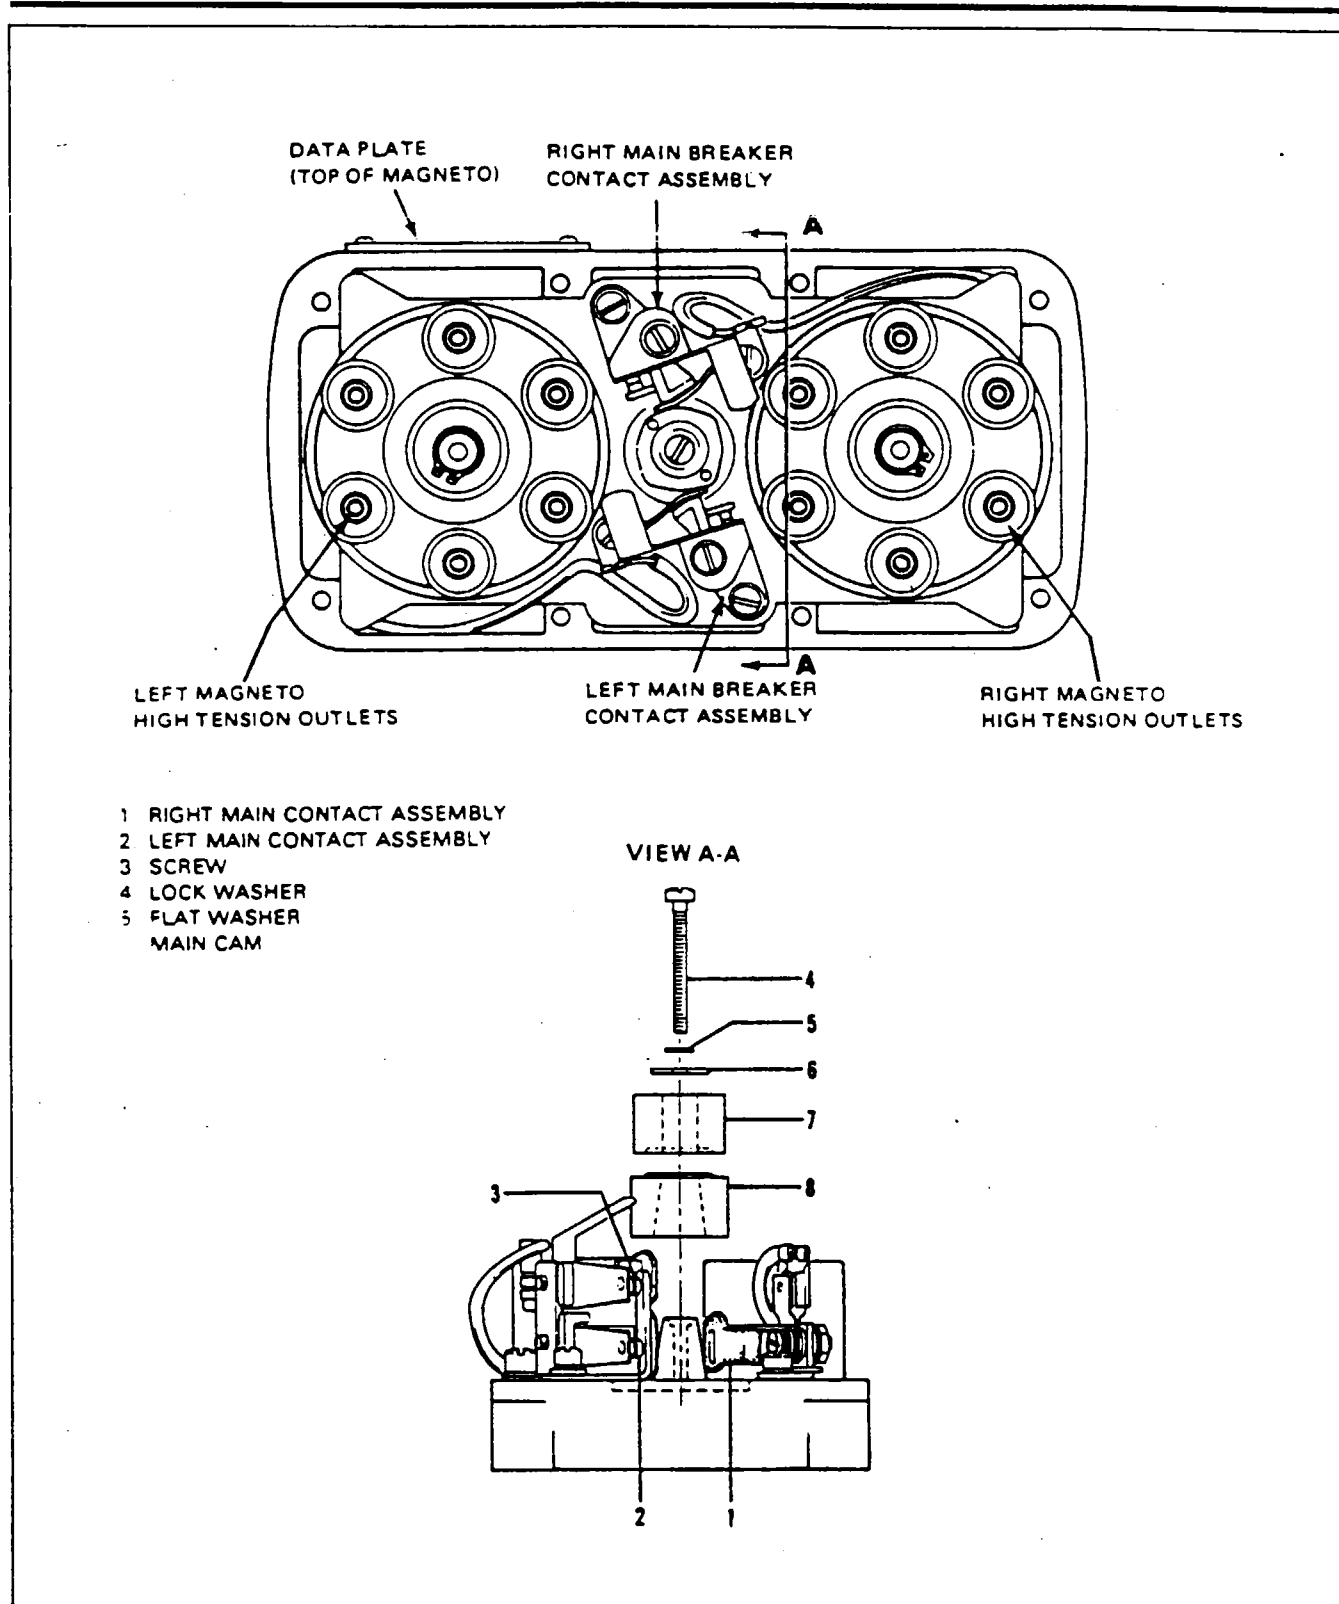

Figure 74-9. Cam End View of Magneto
13. If breaker timing is not correct, loosen cam securing screw (refer to Figure 74-9) and unseat main breaker cam from taper. Using 11-3071 Retaining Ring Pliers inserted in holes in cam, rotate main breaker cam in direction of rotation until left main breaker points just open and press cam onto taper. Install retard cam washer and screw. Tighten screw to seat main breaker cam.